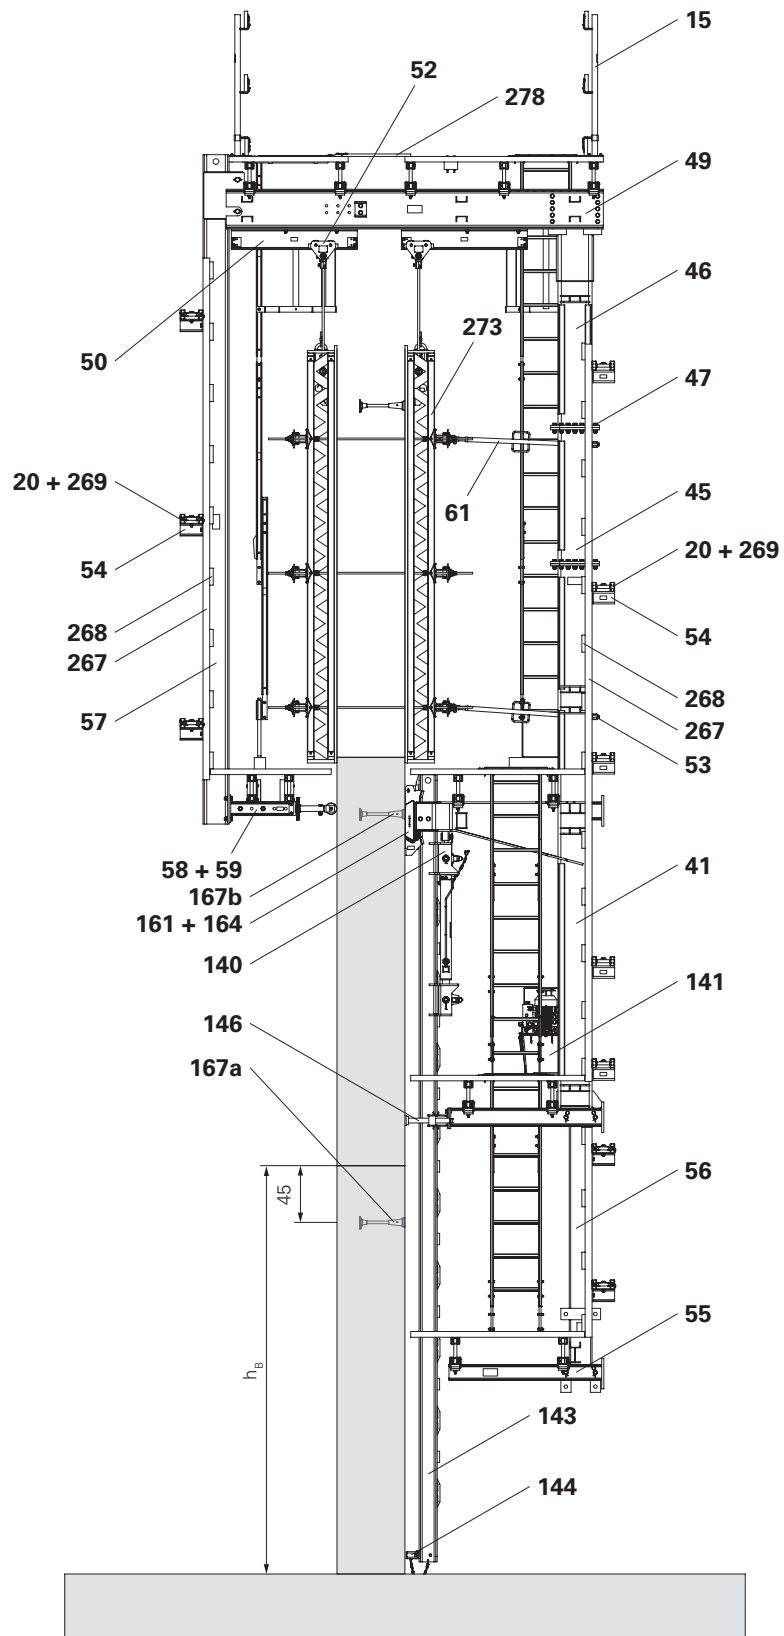

Fig. A1.01
- Concreting height (h_g) = 3.6 m. (Fig. A1.01)